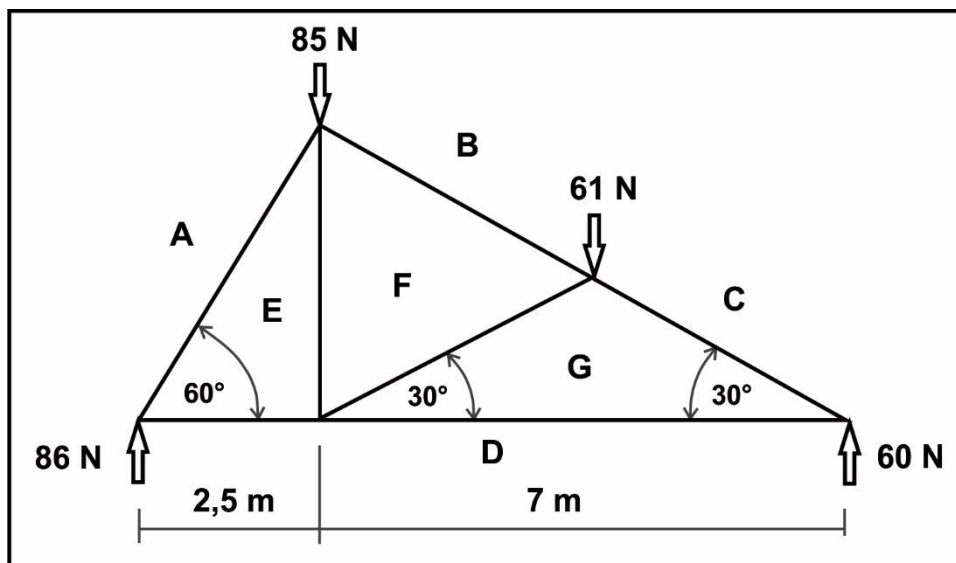

FIGURE 7.1
7.1 Figure 7.1 shows a steel frame. Using Bow's notation, graphically determine the magnitude and nature of the forces in parts AE; BF; CG; DG; DE; EF and FG.